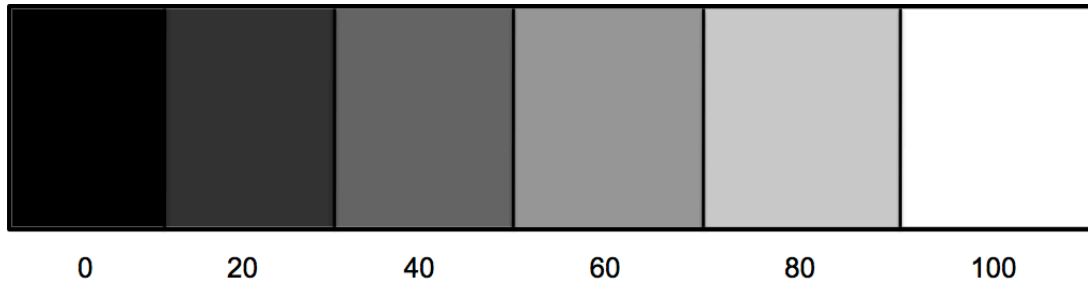

Figure 26: Gray-scale for characterizing the ground proximity sensors.
7. For each band in the gray-scale in Figure 26 (located at the end of this tutorial):